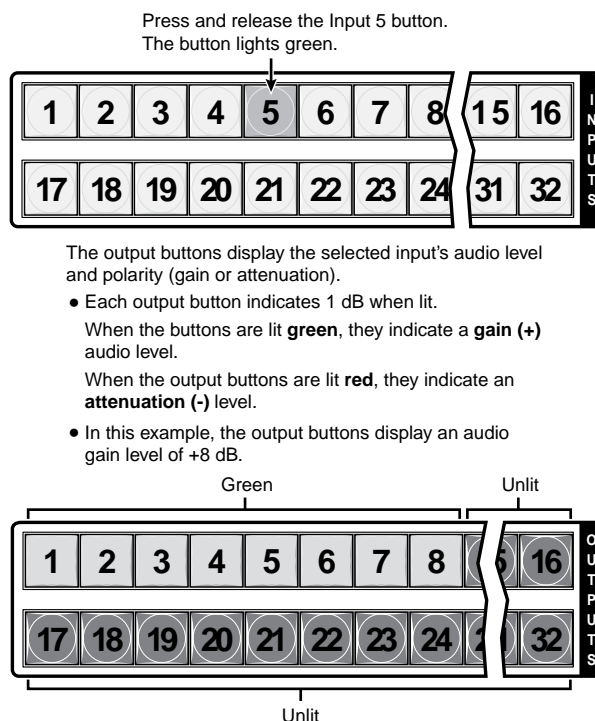
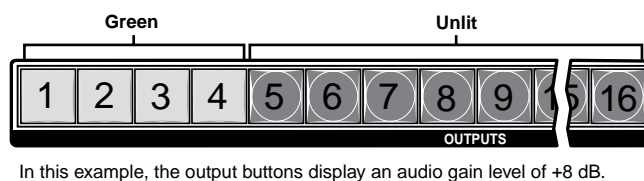

Figure 3-53 — Select an input
Figure 3-54 — Level display on a 16-output-button switcher
3. Press and release the Input 5 button (figure 3-53).
Figure 3-54 shows the same level (+8 dB) as in figure 3-53, but displayed on a 16-output-button switcher, such as an MTPX Plus 816.